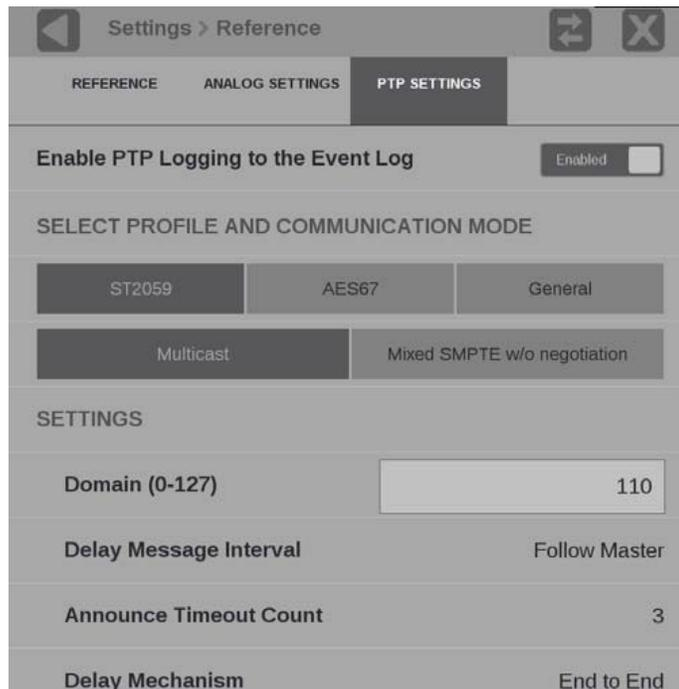

Figure 61: Editing PTP reference settings
2. Open the **Reference** menu and select the **PTP Settings** submenu as shown in Figure 61.